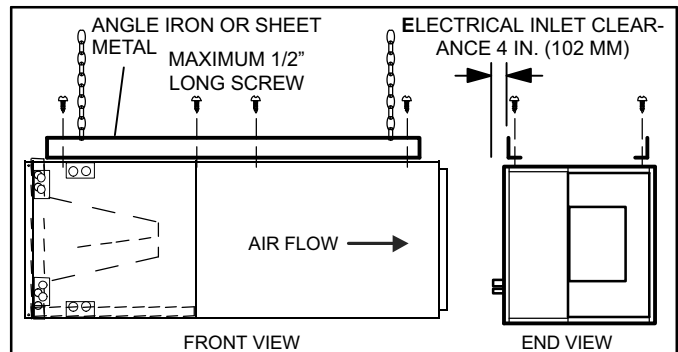

Figure 2. Suspending Horizontal Unit
5. If the unit is suspended, the entire length of the cabinet must be supported. If you use a chain or strap, use a piece of angle iron or sheet metal attached to the unit (either above or below) to support the length of the cabinet. Use securing screws no longer than 1/2 inch to avoid damaging the coil or filter. See figure 2. Use sheet metal screws to connect the return and supply air plenums as required.